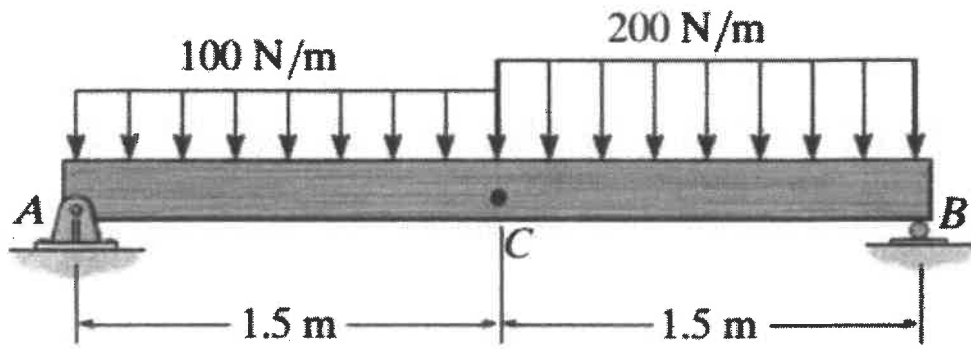

Figure 5: Support Beam
*Refer Below - Figure5 : Support Beam .*